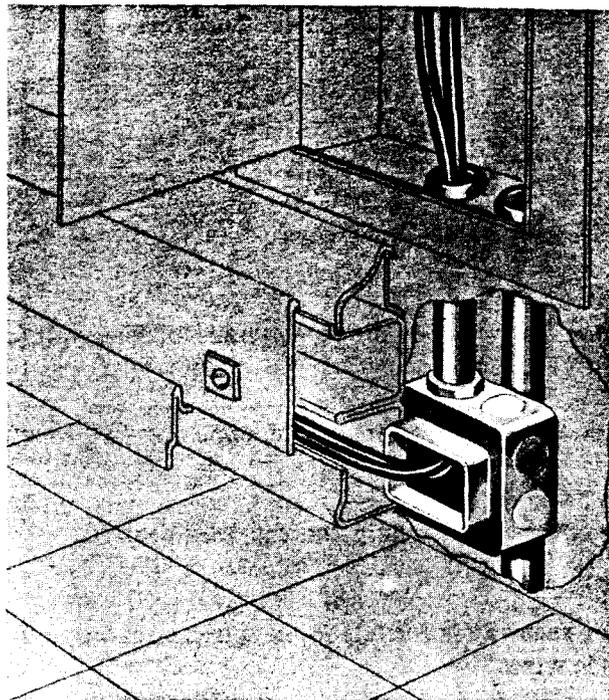

Fig. 1 — Metal Baseboard Raceway
- With this system, the usual baseboard has been replaced with a metal wall raceway (Fig. 1).